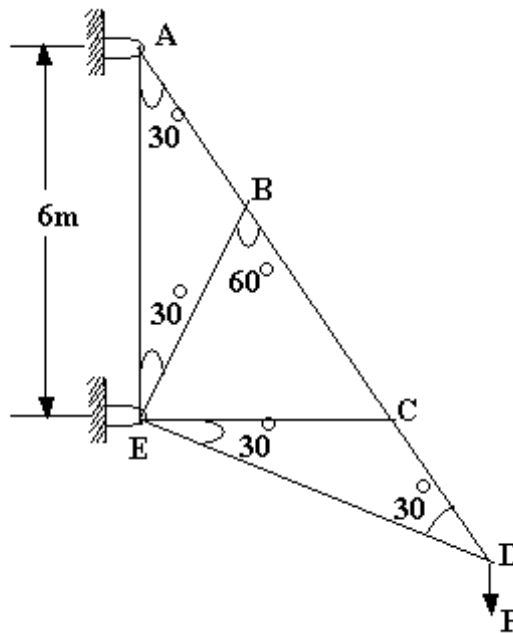

Figure 5
5. Figure 5 shows a cantilever truss ABCDE, subjected to a vertical load $P = 100 \text{ KN}$ at joint D. Determine the forces in the members and reactions at the supports. [16]